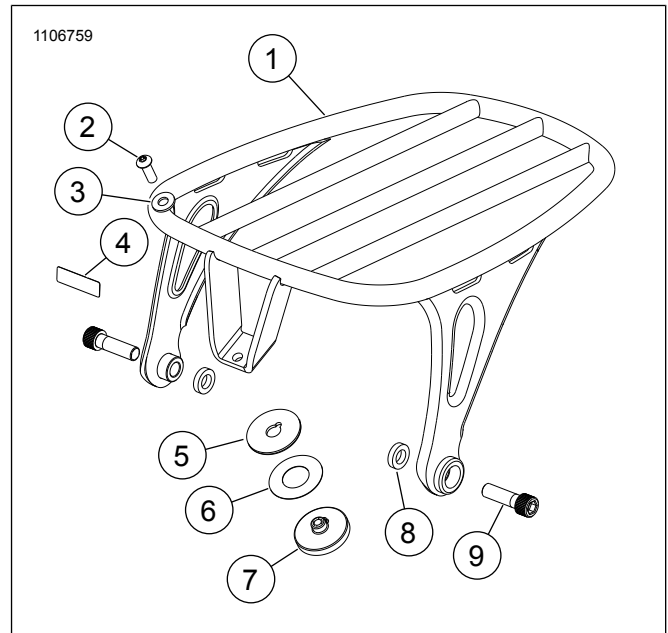
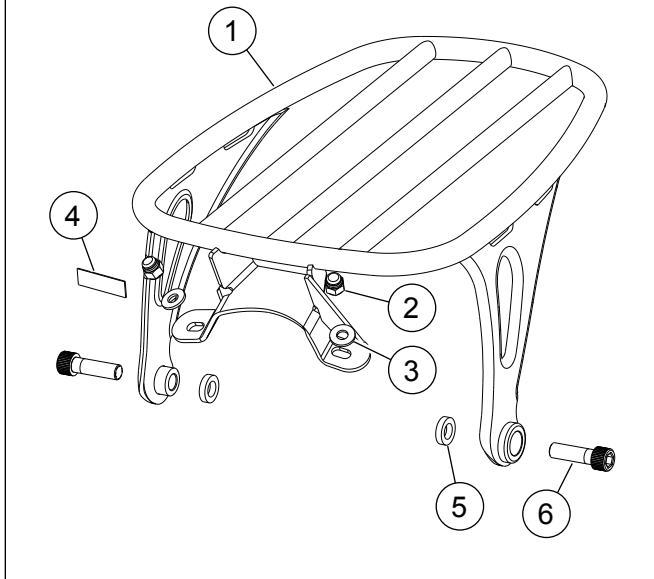

Figure 7. Kit 50300120
Figure 8. Kit 50300154/156
See Figure 7, Figure 8 and Refer to Table 1.
g. See Figure 7. Install docking spacer (8) between fender and fender mount and secure it with socket head cap screw.
12. See Figure 7. Tighten screw (2).
- g. See Figure 8. Install docking spacer (5) between fender and fender mount and secure it with socket head cap screw.
- 4. Tighten nuts (2).